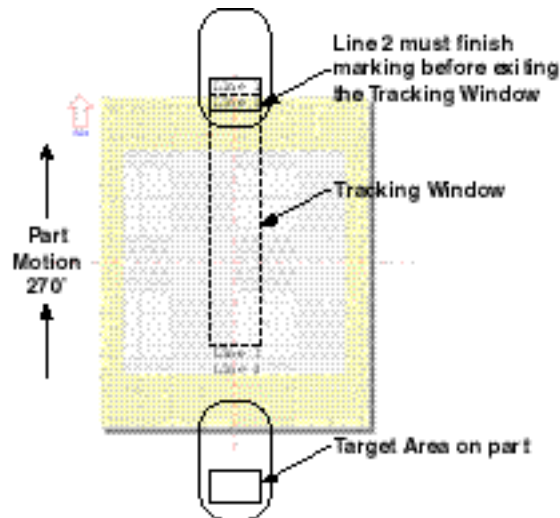

Figure 7 Maximum marking position in Tracking Window
- Marked portions of the *Target Area* may move beyond the upstream edge of the *Tracking Window* as the mark is progressing; however, lasing is disabled when any unmarked microvectors move outside the *Tracking Window*. If this occurs, the mark may be missing or incomplete and the mark log will display a “Line speed too fast to finish” error. In Figure 7, “Line 2” will mark unless any unmarked portions of the text object move outside the *Tracking Window*.